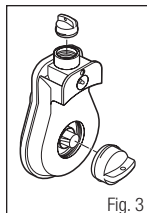

Fig. 3
3. Remove inlet and outlet motor/blower plugs as shown and check that the gaskets are in place. Do not discard the plugs; they should be re-inserted during cleaning (Fig. 3).